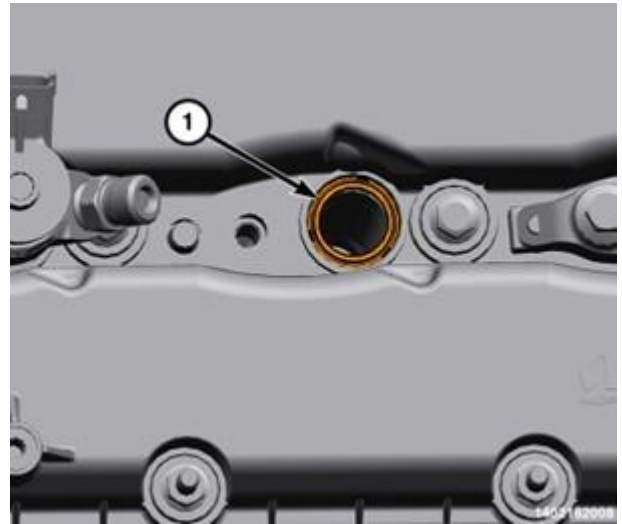

Figure 50 – Upper Sealing Washer
- 93. Install a **NEW** fuel injector seal (1) in the cylinder head cover (Figure 50).